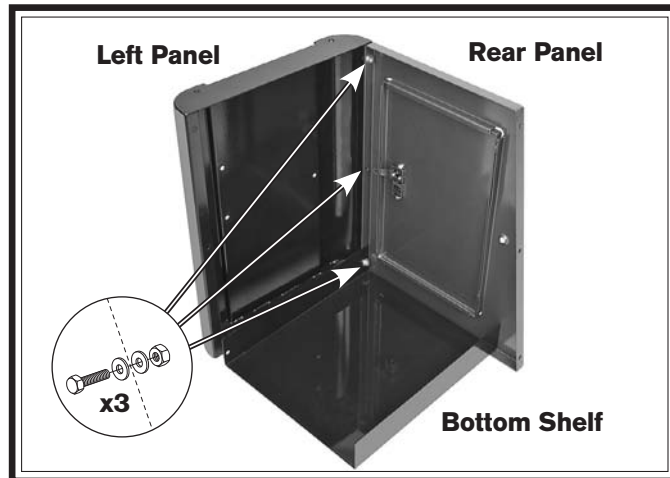

Figure 9. Left and rear panel assembly.
1. Attach the left and rear panels and the bottom shelf together as shown in **Figure 9** with three M8-1.25 x 15 hex bolts, three M8-1.25 hex nuts, and six 8mm flat washers.